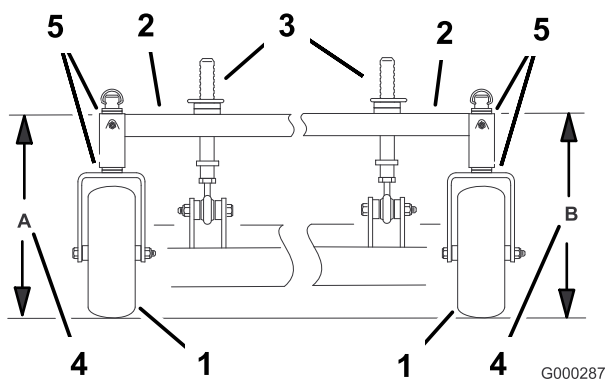

Figure 57
4. Measure carrier frame height at location **A** (Figure 57).
5. Measure carrier frame height at location **B** (Figure 57).